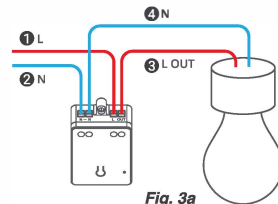

Fig. 3a
- ① Connect the LIVE wire to the 'L' terminal
- ② Connect the NEUTRAL wire to the outer 'N' terminal
- ③ Connect the LOAD wire to the 'OUT' terminal
- ④ (Fig. 3a only) Connect the NEUTRAL wire from the light to the inner 'N' terminal